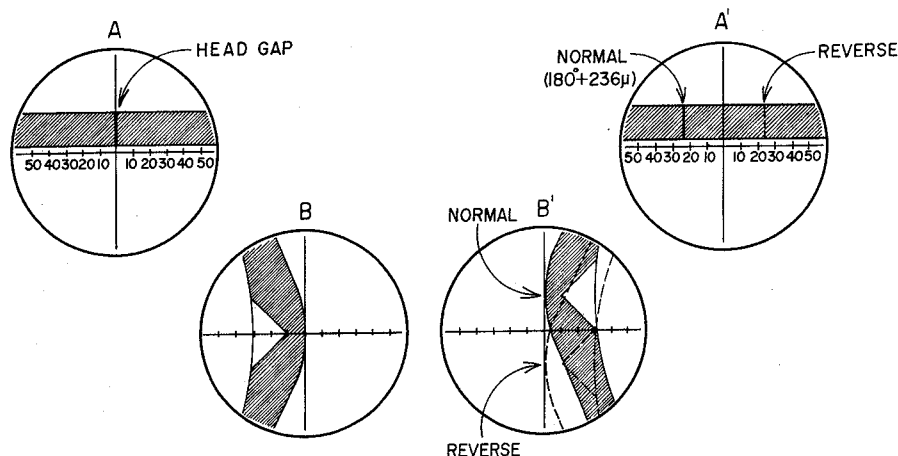

Fig. 1-13 Microscopic Views of Head Tip
- Adjust the protrusion of the head tips so that they are aligned with the center line of microscopes (B) and (B') as shown in fig. 1-13.
- In case the left hand head gap comes above the center line of microscope (A), adjust by bringing the right hand head gap $236\ \mu (\pm 10\ \mu)$